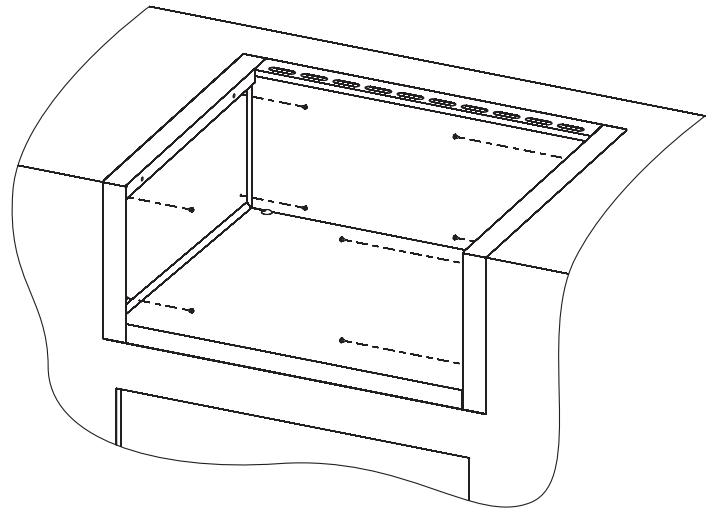

Figure 2
2. Secure the SBB surround to the enclosure using up to eight screws (not provided). See **Figure 2**.